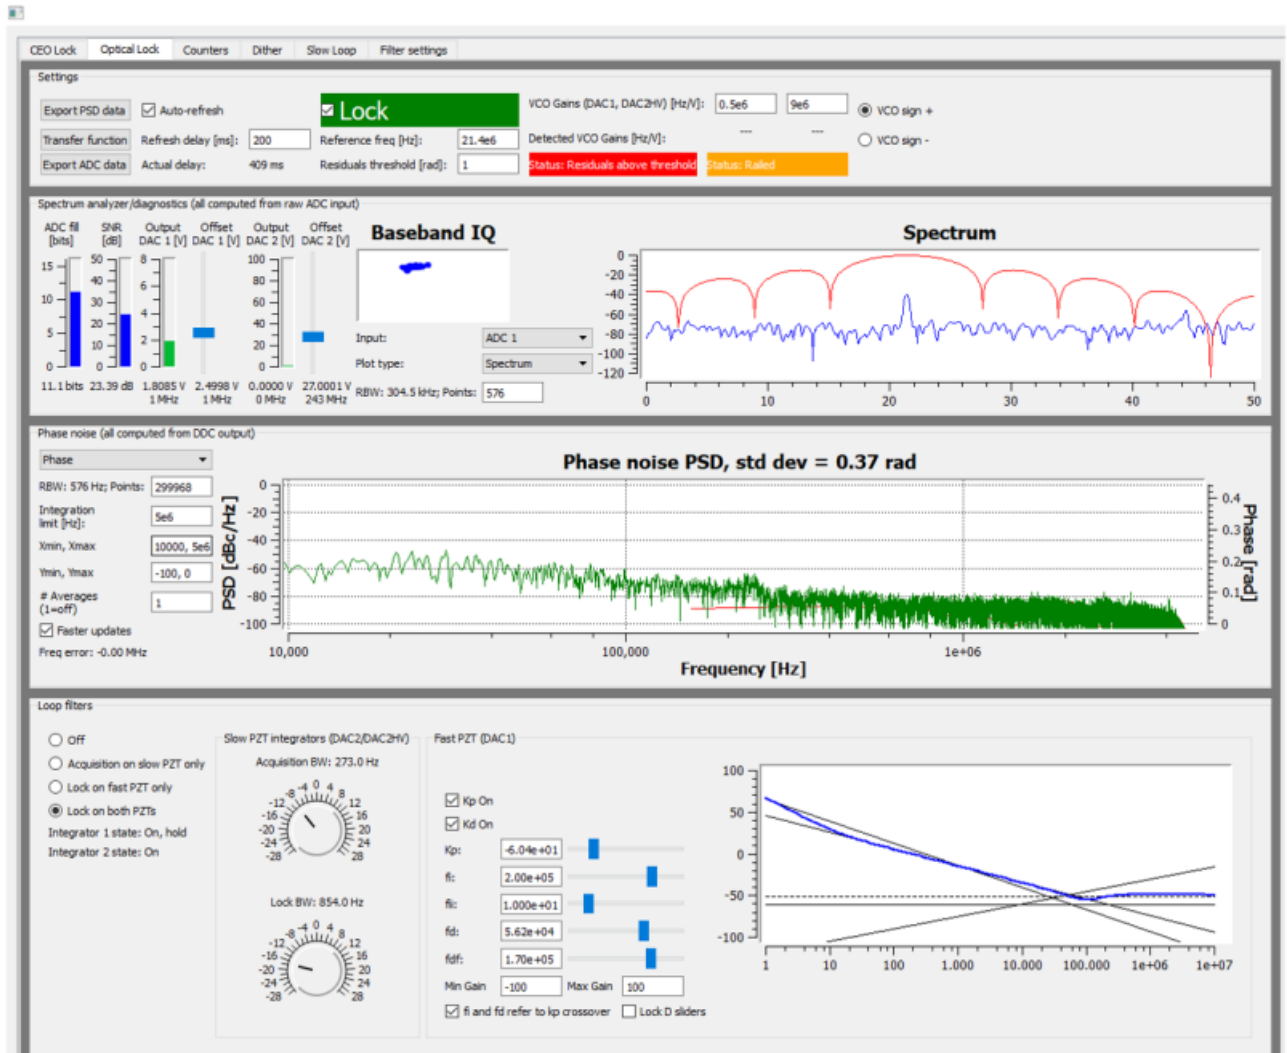

Fig. 16: Locking  $f(\text{opt})$
2. Press the "Lock" button (figure 16). If  $f_{\text{opt}}$  doesn't lock, change the VCO sign to the opposite polarity and try again. If the system continues to not lock, lower the  $K_p$  value.\
3. Adjust PID settings (bottom middle of figure 16) accordingly to lower the integrated phase noise of each parameter ( $f_{\text{CEO}}$  and  $f_{\text{opt}}$ ). The default settings provided in the software are a good place to start but tweaking the values can often improve performance.